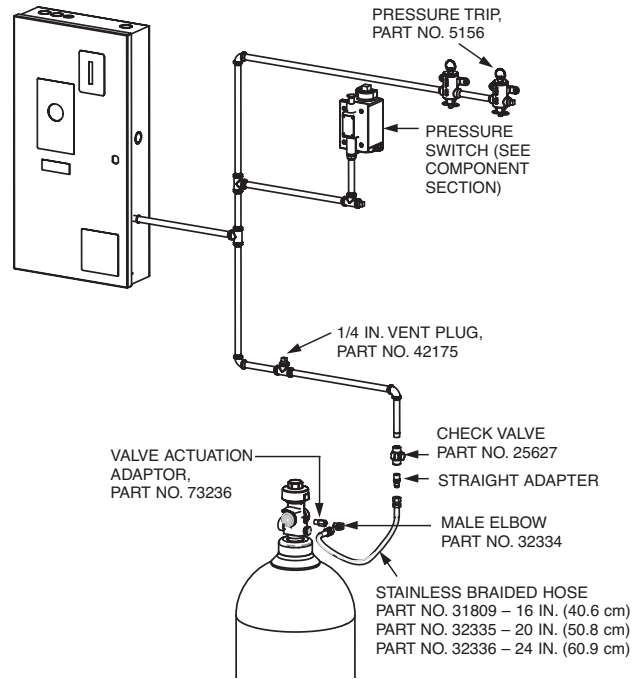

FIGURE 8
4. Install 1/4 in. tee in the actuation piping approximately 24 in. (61 cm) before first carbon dioxide cylinder and install vent plug, Part No. 42175. See Figure 8.
5. Install actuation hose, Part No. 31809, 32335, or 32336 (depending on length required) between actuation piping and either the pneumatic actuator or the CO₂ valve. A 1/4 in. male adaptor, Part No. 32338, 31810, or 32334, is required on each end of the actuation hose. See Figure 8.